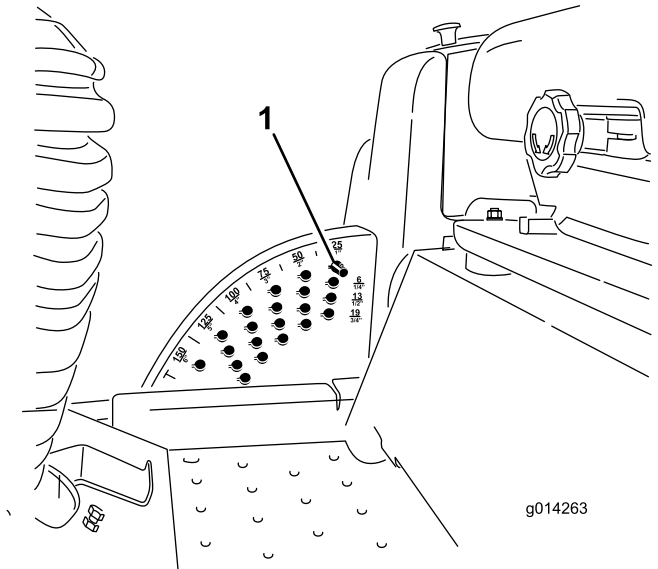

Figure 18
Height-of-Cut), and place the pin in the 6 inch (15 cm) height-of-cut position (Figure 18).
1. With the engine running, push back on the deck lift switch until the mower deck is fully raised and **release the switch immediately** (Figure 18).
2. To adjust, rotate the stop pin until the nub on it lines up with the slots in the holes in the height-of-cut bracket and remove it (Figure 18).
3. Select a hole in the height-of-cut bracket corresponding to the height-of-cut desired, insert the pin, and rotate it down to lock it in place (Figure 18).
Note: There are four rows of hole positions (Figure 18). The top row gives you the height of cut listed above the pin. The second row down gives you the height listed plus 6 mm (1/4 inch). The third row down gives you the height listed plus 12 mm (1/2 inch). The bottom row gives you the height listed plus 18 mm (3/4 inch). For the 15.8 cm (6 inch) position there is only one hole, located in the second row. This does not add 6 mm (1/4 inch) to the 15.8 cm (6 inch) position.